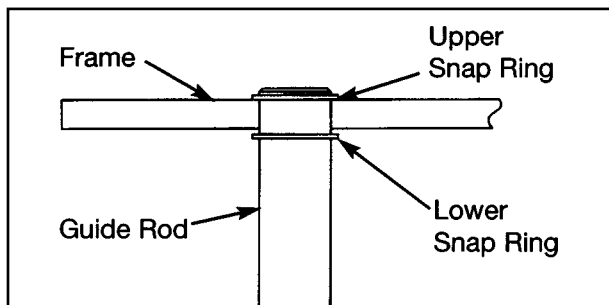

Figure 1
3. Using an external snap ring pliers, remove the upper snap ring from one of the guide rods and carefully lower the guide rod. See Figure 1.